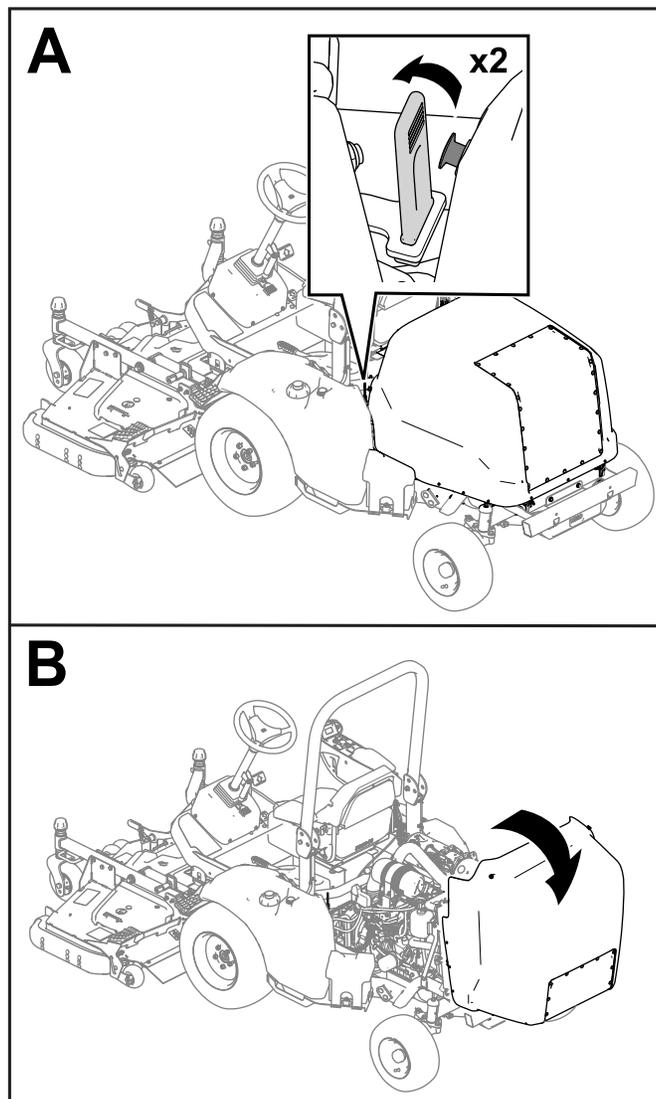

Figure 47
1. Release the straps from each side of the machine (Figure 47).
2. Raise the hood (Figure 47).